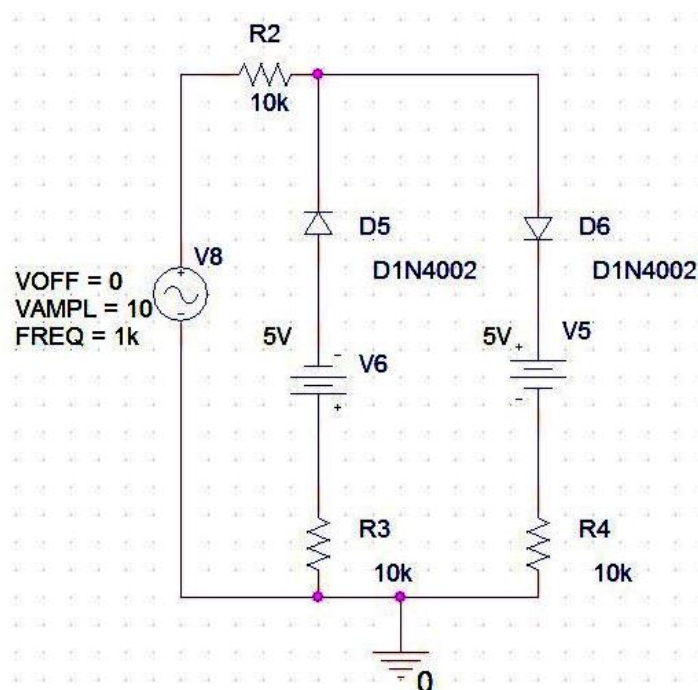

Figure 1A – Circuit Diagram for Limiter Circuit - I
- Using ORCAD PSpice software, draw the circuit diagram as shown in figure 1A.